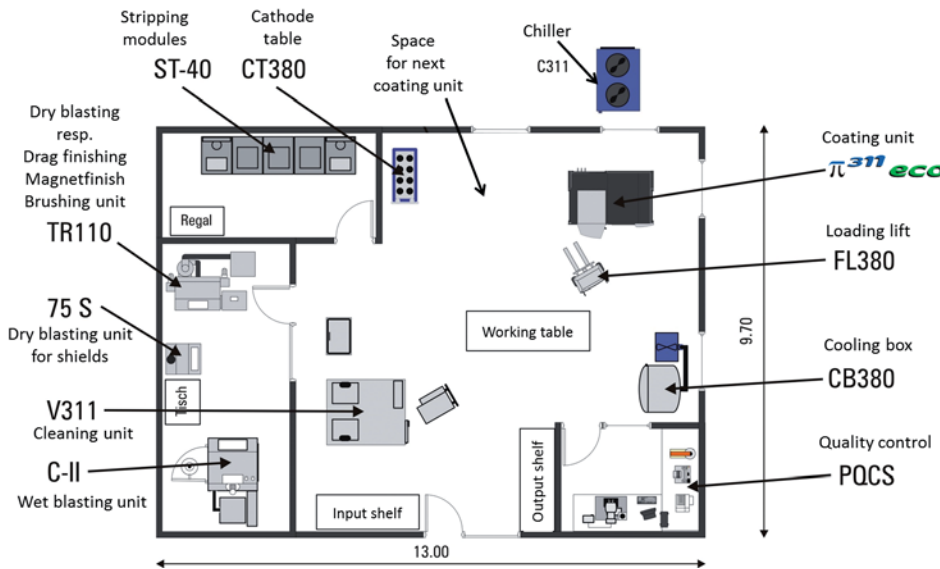

Figure 3: Example layout of an in-house coating system.
- When choosing the system supplier of an in-house coating, he must first see whether he will be getting a turnkey solution (Figure 3) with complete know-how from a single source [2].